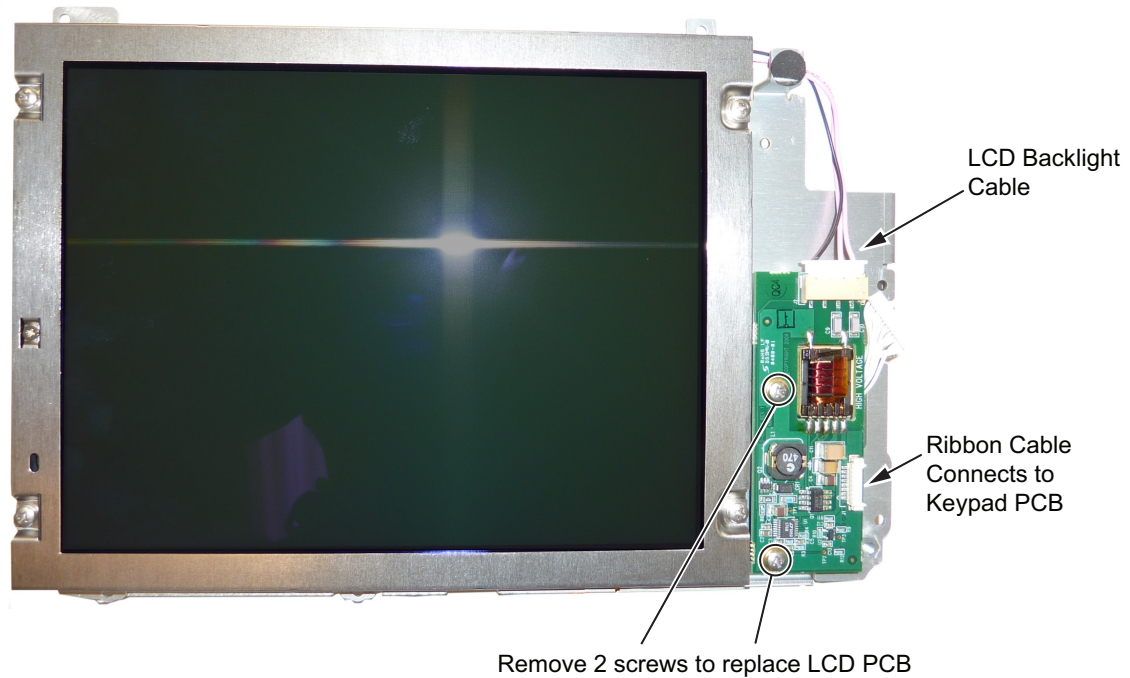

Figure 7-14. Replacing the LCD PCB
5. Use a Phillips screwdriver to remove the two screws securing the LCD backlight PCB to the LCD bracket (Figure 7-14).